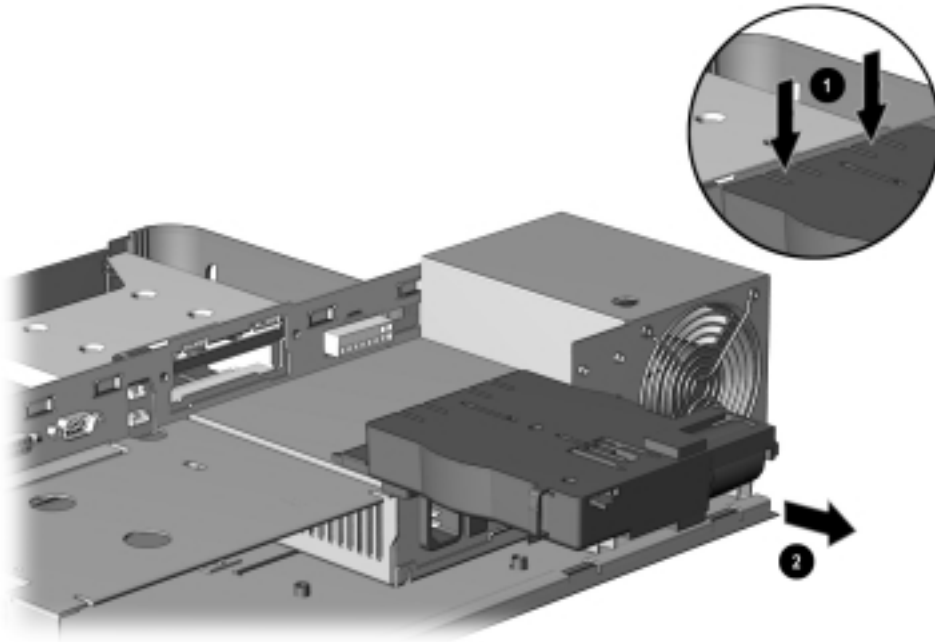

Figure 5-28. Removing the Mechanism Assembly
7. Remove the mechanism assembly by pressing down on the two square tabs on the mechanism assembly cover ❶ and pulling the assembly out of the backplane ❷ (Figure 5-28).